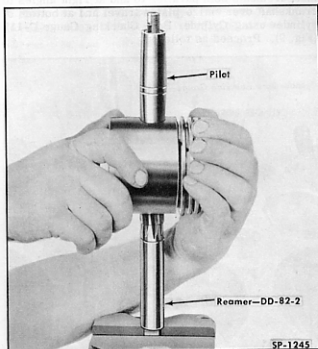

Fig. 13—Reaming Piston Pin Bore
2. Check piston pin fit. The piston pin should be a "push fit" in the piston after the piston has been heated in water to approximately 160° F. If the pin is loose, a new pin must be used. It may be necessary to use a .003 or a .005 inch oversize pin and ream the piston with Piston Pin Reamer DD-82-2 (Fig. 13) to obtain a push fit.